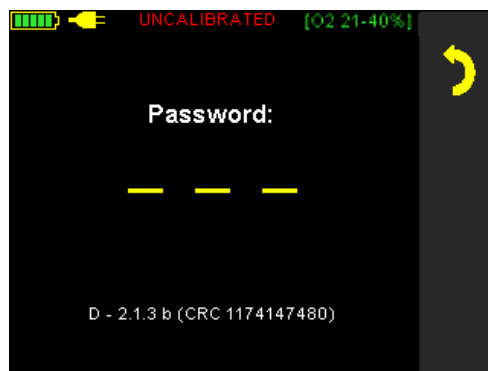

Figure F-3
- c. In the **Password Screen** (see Figure F-3), enter the password using the **Navigation Arrows** in the following order: left – up – right.